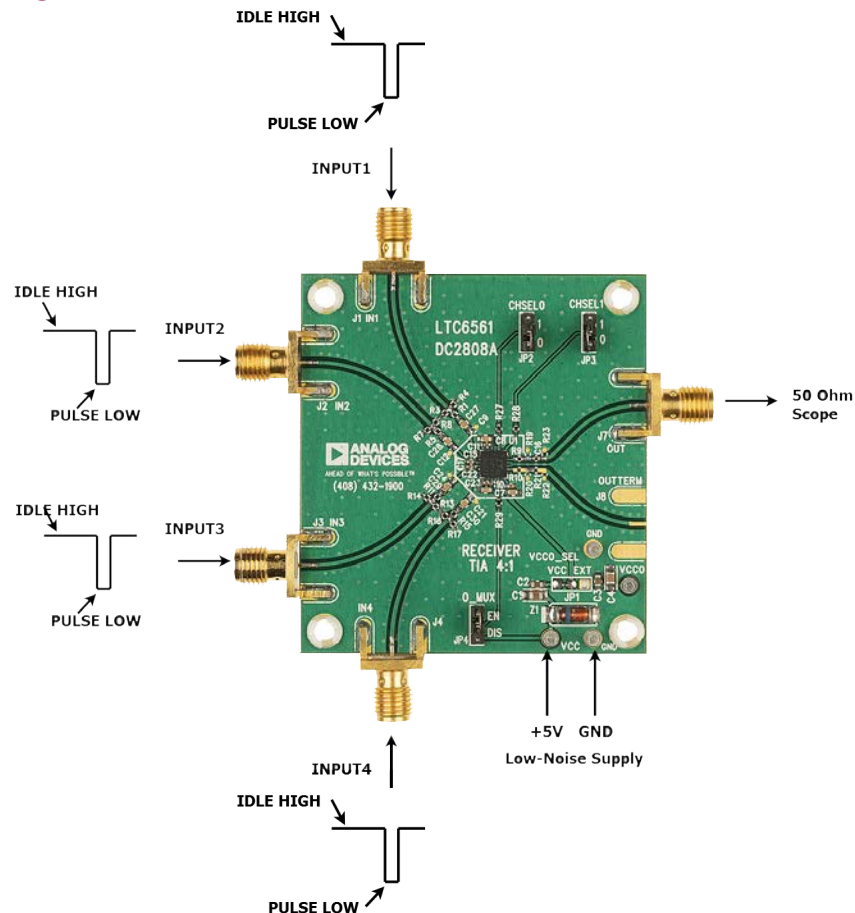

Figure 1. Connection Diagram
- 3) Connect a 5V low-noise power supply shown in Figure 1. V_{CC0} is hardwired to V_{CC} by default.